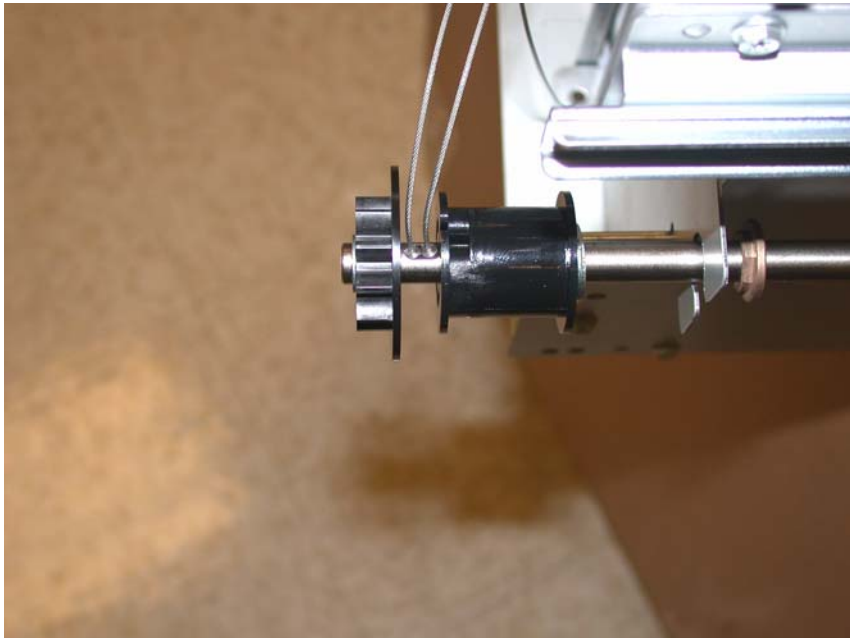

Figure 9 Releasing the Cable ends from the Lift Shaft
4. When both sections of the cable are slack, disengage the Lift Shaft from the frame and slide the Tray Cable Pulley to the front of the Lift Shaft to release the Rear Lift Cable ends that are trapped in the pocket underneath the Tray Cable Pulley (Figure 9).